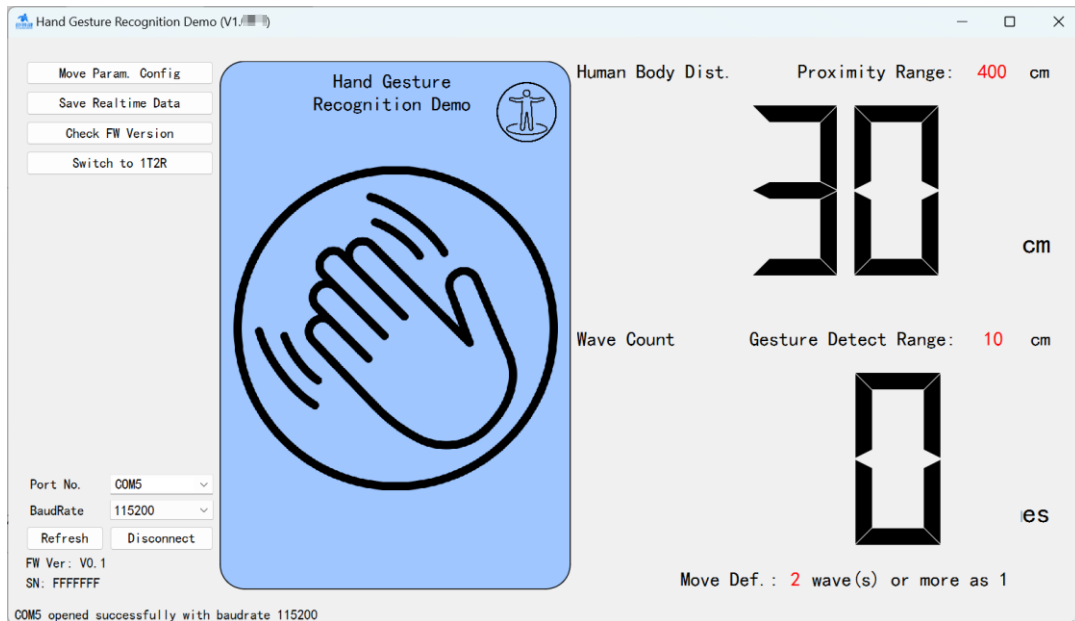

Figure 5-3 Tool interface when human presence is detected
- Right panel displays detected distance (see Figure 5-3)